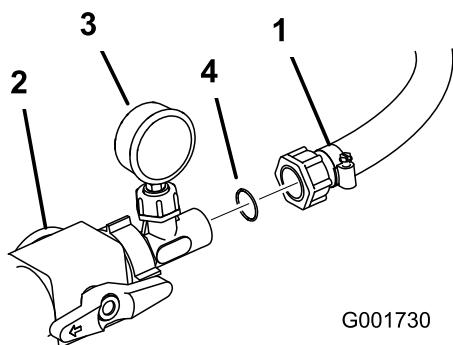

Figure 17
18. Install a plastic O-ring between the pressure gauge assembly and hose leading to the reel assembly. Connect the hose to the assembly (Figure 17).